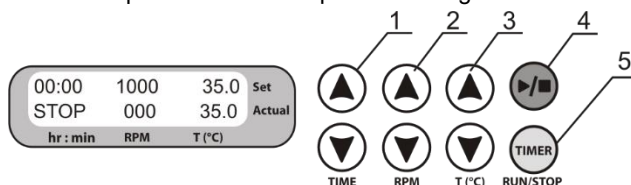

Figure 3. Control Panel
- 5.4.1. **Setting time (TIME).** Using the ▲ and ▼ TIME keys (fig. 3/1) set the required working time interval in hours and minutes (increment 1 min).
- 5.4.2. **Setting speed (RPM).** Using the ▲ and ▼ RPM keys (fig. 3/2) set the required speed (increment 10 rpm).
- 5.4.3. **Setting temperature (T, °C).** Using the ▲ and ▼ T, °C keys (Fig. 3/3) set the necessary temperature (increment 0.1°C).
5.5.2. Press the ►/■ **RUN/STOP** key (fig. 3/4). The platform will start rotating and the timer indicator will start counting up the time interval (with 1 min precision).
5.7. If required, there is possibility to restart the timer when it is running. Press the **TIME RUN/STOP** key once (fig. 3/5) to stop the timer. Press the **TIME RUN/STOP** key again to restart the timer.
Caution! At the end of the set time period the platform movement is stopped automatically, but the heating can be stopped only manually by reducing the temperature using the ▼ **T, °C** key (Fig. 3/3 - lower key) till the OFF sign appears in the upper line (Set) of the display